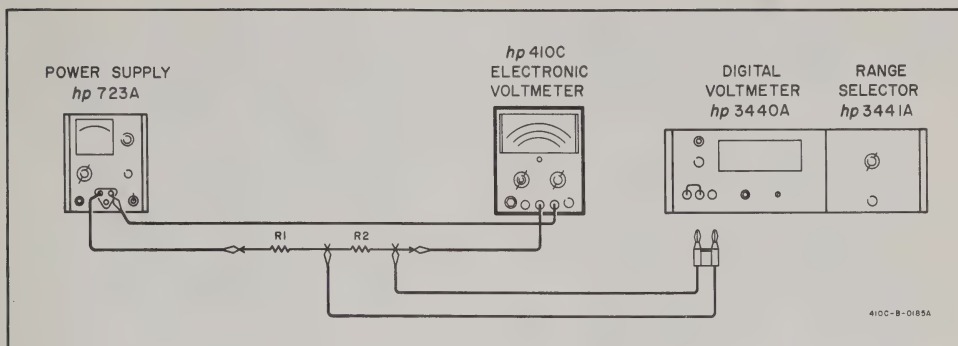

Figure 5-2. DC Ammeter Operation
- a. Figure 5-2 describes the test arrangement required for this operation.
- b. Connect the Model 410C as shown in Figure 5-2; FUNCTION SELECTOR to +DCA; RANGE to 150 MA.